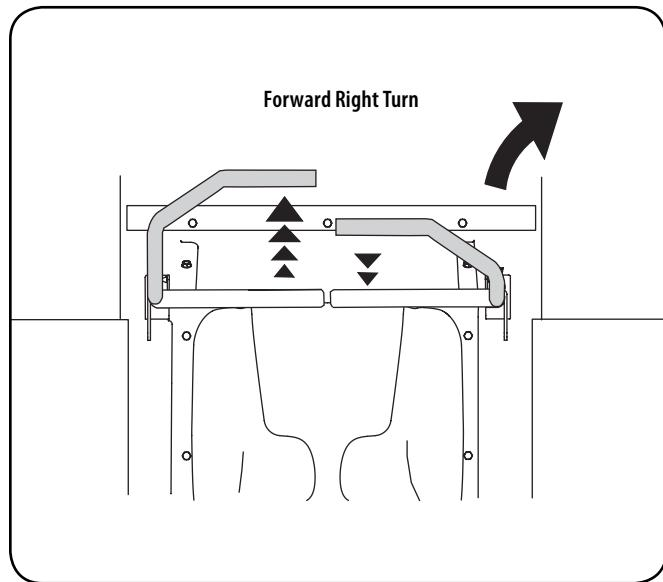

Figure 4
- To turn to the right, move the right drive control lever rearward of the left lever. See Figure 4.